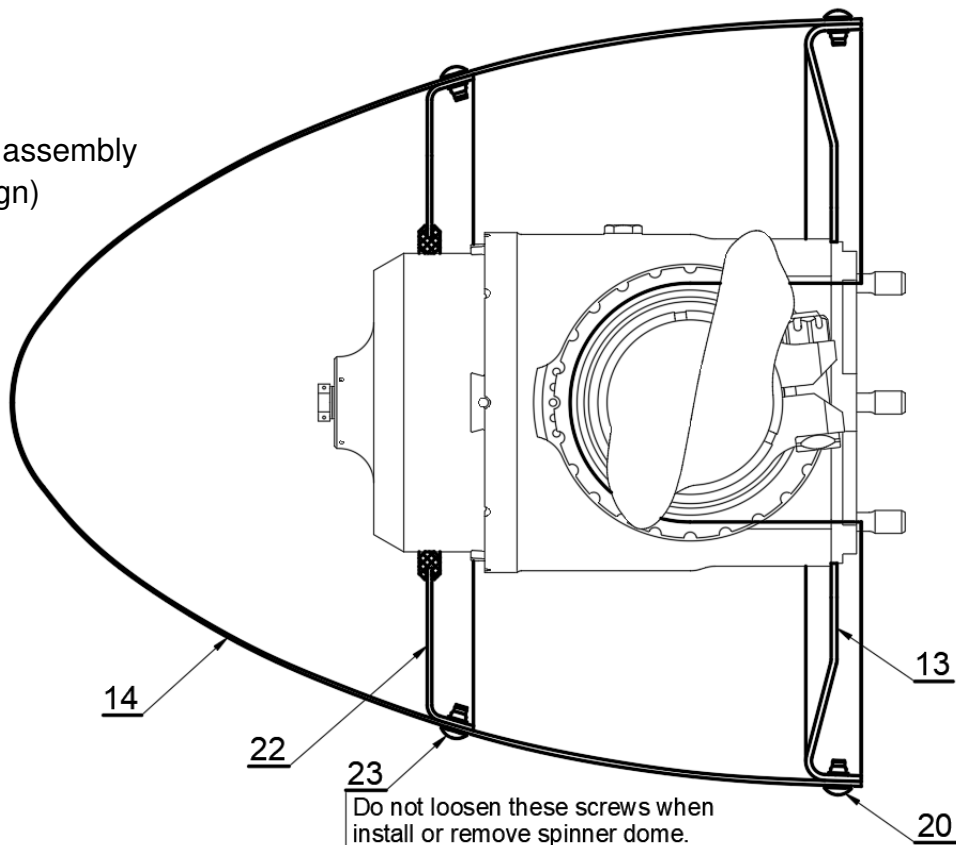

Fig. 101B
- 2 Figure 101B. From 2022 year, the redesigned version of spinner assembly is used on the propellers. The composite spinner dome (14) has an internal metal bulkhead (22) attached to the dome from outside with a four inch screws (23) and fiber washers. Do not loosen or remove these screws and do not remove the stiffener from the dome when install or remove the spinner dome. The dome is fitted to the rear bulkhead (13) with a fourteen inch screws (20) and fiber washers. The rear bulkhead is attached to the hub with four screws. It has not the holes for attaching the balancing weights, which are drilled at balancing as applicable.